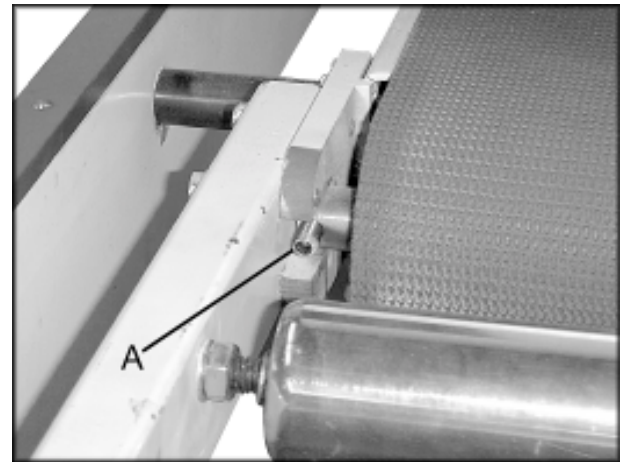

FIGURE 4
Tracking and tension for the feed belt is controlled by two socket set screws on each side of the belt (A) as shown in Figure 4.